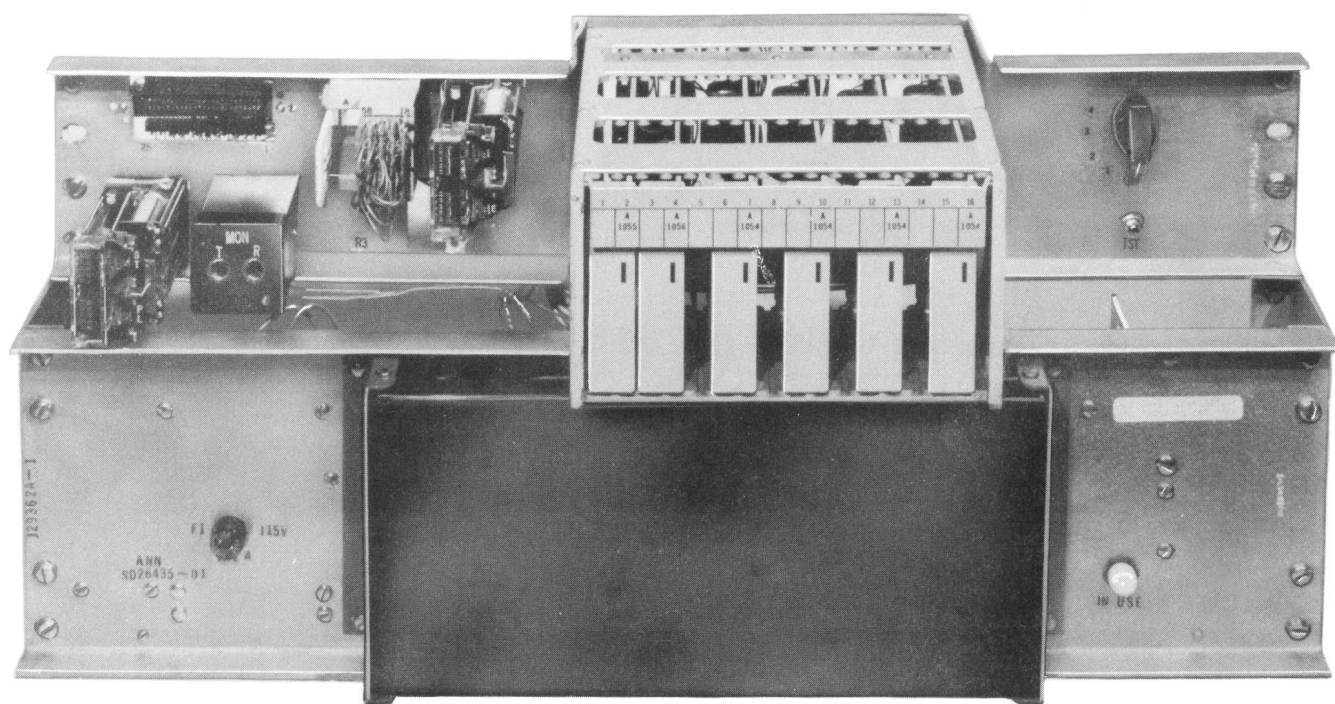

Fig. 1—12A Announcement System (Front Door Closed)
1.03 The 12A Announcement System shown in Fig. 1, provides one to four different recorded announcements simultaneously or individually. Each announcement can serve up to 100 lines at the same time with a minimum length of 10 seconds. This announcement unit can now be ordered to include recording features or existing units may be retrofitted to add the recording features. The figure references in this section do not show the 12A announcement unit with the recording features included.